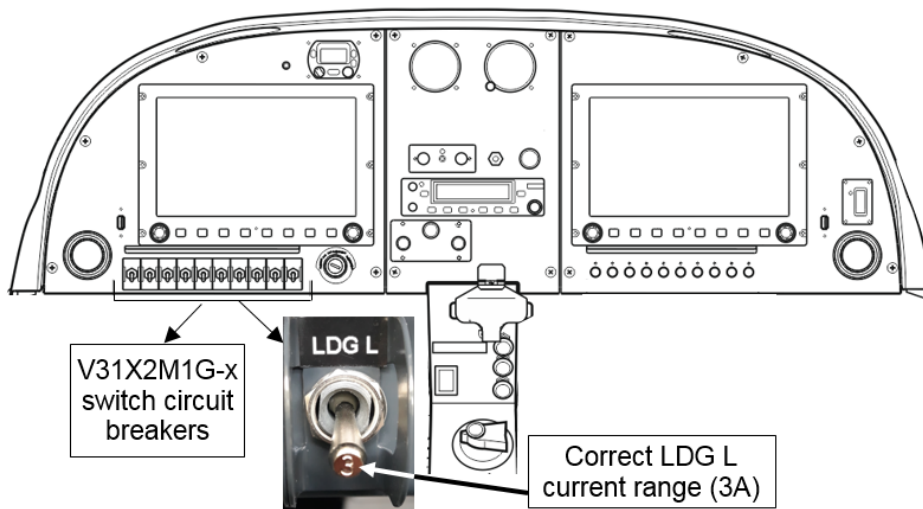

Figure 8 - The LDG L V31X2M1G-x switch circuit breaker. Placed on the left instrument panel
NOTE: Numbering of parts used in this Section 3 belongs to the Figure 8, 9 and 10.
Note: The instrument panel on Figure 8 is illustrative only, and may differ depending on the aircraft equipment.
- 3.1 Determine the LDG L switch circuit breaker (text "LDG L") on the left instrument panel, see Figure 8.